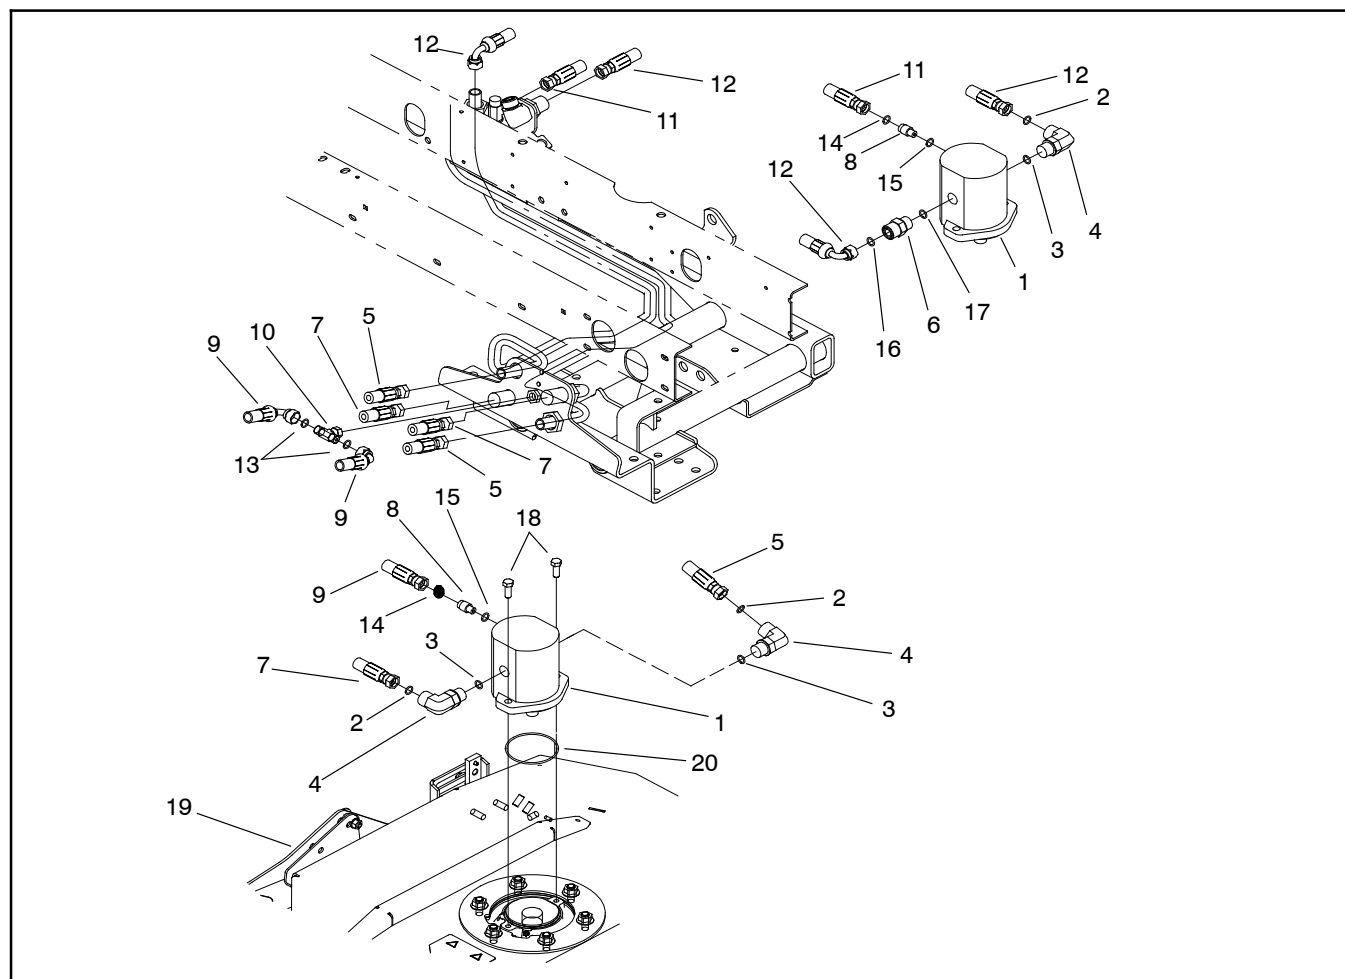

Figure 84
Removal (Fig. 84)
2. Remove hydraulic hoses from rotary motors using Figure 84 as a guide.
Installation (Fig. 84)
3. Install hydraulic hoses to rotary motors using Figure 84 as a guide.